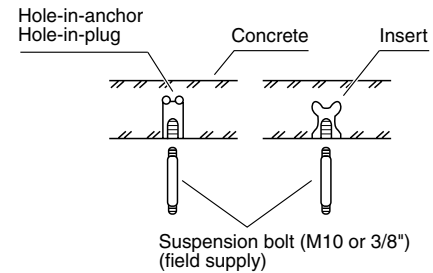

Fig. 3-1
(1) Fix the suspension bolts securely in the ceiling using the method shown in the diagrams (Figs. 3-1 and 3-2), by attaching them to the ceiling support structure, or by any other method that ensures that the unit will be securely and safely suspended.